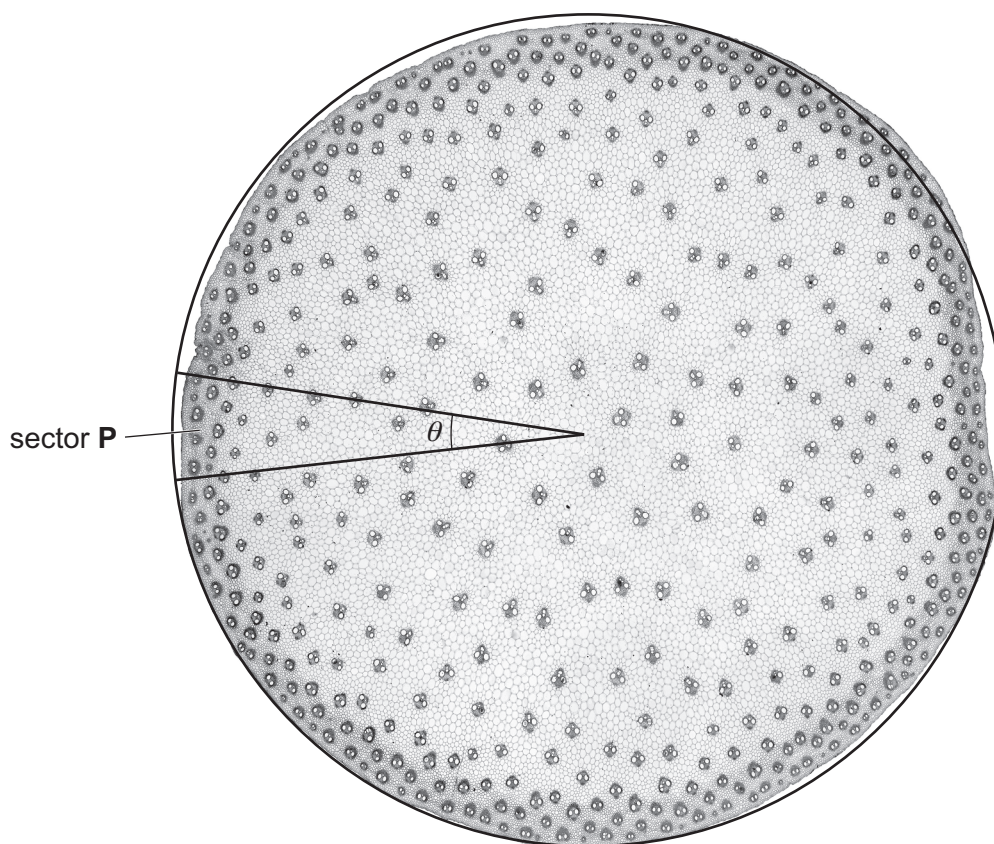

Fig. 2.2
- (b) Fig. 2.2 is a photomicrograph of a stained transverse section of a stem from a different type of plant.
- (ii) Use your answer to (b)(i) to estimate the total number of vascular bundles in the stem section shown in Fig. 2.2.
(iii) The stem section shown in Fig. 2.2 has an actual area of 44 mm^2 .